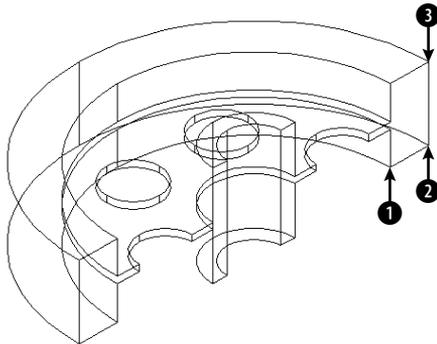

Figure 24-25: This 3D model was sliced and can now be mirrored.
1. If you have `ab24-04.dwg` open from the previous exercise, use it. Do a regen to remove the hidden view. If you don't have it open, open it from your `AutoCAD Bible` folder or from the `Results` folder of the CD-ROM. Make sure OSNAP is on and set a running object snap for endpoint. If you don't have the Solids Editing toolbar open, right-click any toolbar and choose Solids Editing from the toolbar list. The drawing is shown in Figure 24-25.
Specify first point of mirror plane (3 points) or [Object/Last/Zaxis/View/XY/YZ/ZX/3points] <3points>: *Pick ❶ in Figure 24-25.*